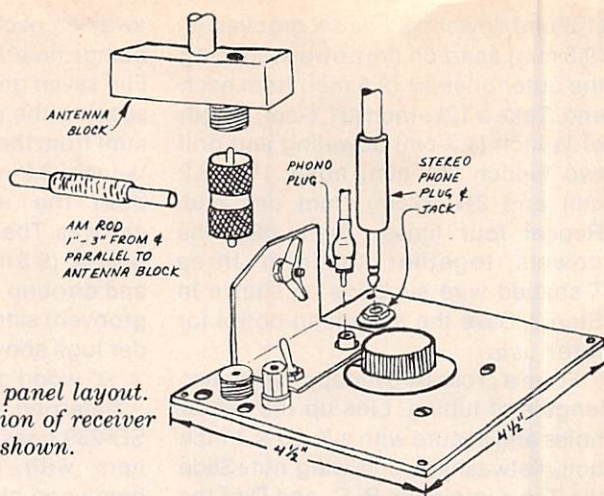

Fig. 4. Control panel layout. Proper orientation of receiver rod antenna is shown.
**Control Panel Construction.** We'll now assemble the Loop's Control Panel. It should be fashioned from a 4.75" (12.1-cm) square piece of  $\frac{1}{16}$ -inch (1.6-mm) aluminum plate. Physical layout is flexible, but use Fig. 4 as a guideline. Form a support bracket from aluminum stock, or use a commercial aluminum angle about 2 $\frac{1}{2}$ "  $\times$  1 $\frac{1}{2}$ "  $\times$  1 $\frac{1}{2}$ " (6.4 cm  $\times$  3.8 cm  $\times$  3.8 cm). Install the bracket centered along one side of the aluminum panel. Then drill mounting holes for an SO-239 coaxial jack—this should be set back 1"  $\times$  1" (2.5 cm  $\times$  2.5 cm) from the corner nearest the notched side of the bracket—and for the main tuning capacitor, switch S1, binding post BP1, and the RCA phono and head-phone jacks (if desired).
Attach the Loop frame to the Control Panel using PL1, a double male uhf coaxial adapter (Amphenol 83-877), between jacks J1 and J2. Then connect the free end of the hookup wire from the loop to binding post BP1. Tighten the hardware holding the hardwood strip. Leave S1 open, and position your AM receiver below the Loop, orienting its rod antenna as shown in Fig. 4. The two coils should be about 1" to 3" (2.5 cm to 7.6 cm) apart.